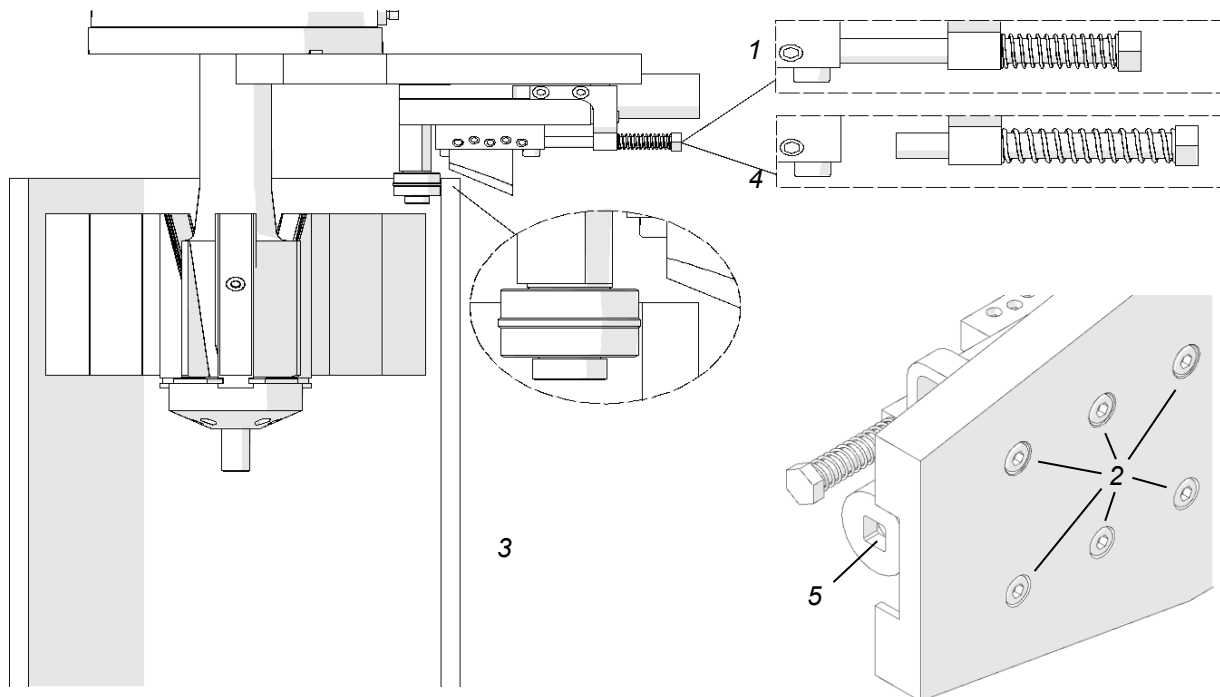

Fig. 13. Proper positioning of the oval attachment
After the machine with the attachment is clamped inside the pipe, tighten the bumper screw to immobilise the tool bit holder (1, Fig. 13). Use the 6 mm hex wrench to loosen the guide screws (2). Place the attachment so that the roller is in contact with the pipe at the lowest inner diameter (3). Then, tighten the guide screws (2), unscrew the bumper screw (4), and use the 1/2" ratchet wrench to initially tighten the spring (5).